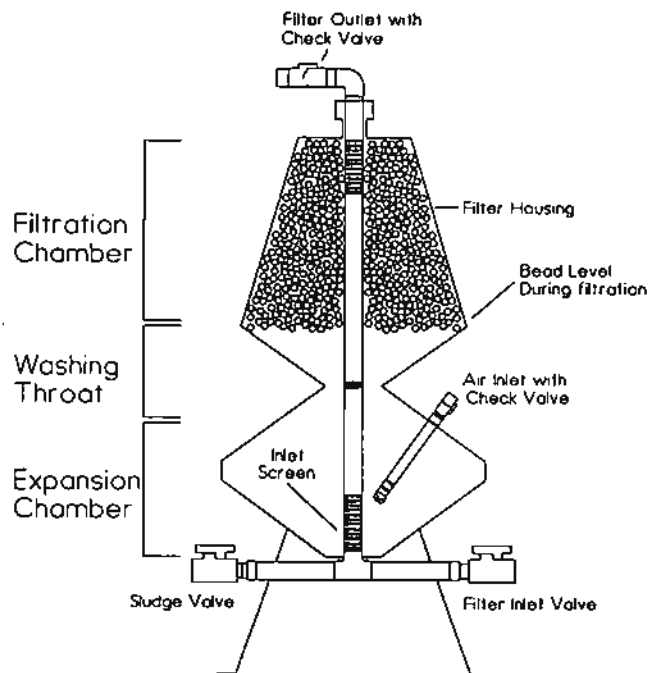

Figure 2.2. "Hourglass" or "bubble-washed" bead filters use a bed of floating plastic beads, providing for simultaneous clarification and biofiltration.
Figure 2.2 (Malone, 1993) is a cross-section of the typical bubble-washed bead filter. Because of its distinctive shape, the unit is called an "hourglass" bead filter. The filter itself contains no moving parts, and its body has three major zones: (1) the filtration chamber, (2) the washing throat, and (3) the expansion chamber. Water from the holding tank or pond enters the filter through a slotted inlet pipe at the bottom of the lower chamber, passes upward through the washing throat and the bead bed contained within the filtration chamber, and exits through a slotted discharge pipe at the top of the upper chamber. The inlet pipe also serves as the sludge discharge line. The filter is equipped with an air inlet line that terminates below the center of the washing throat. The filter is normally operated with four valves (inlet, sludge, air, and discharge). Check valves are sometimes used on the air inlet and water outlet lines to simplify the backwash operation.